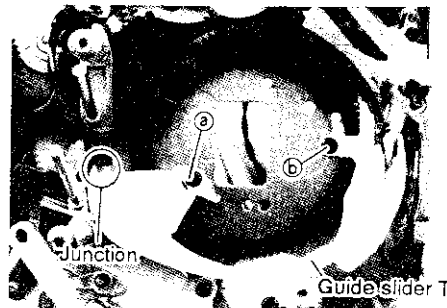

Fig. 3-16-1
- 3 Remove screws ③ and ⑤ and then the guide slider T.
- 4 Slide the takeup tape guide assembly in the direction of arrow (Fig. 3-16-1) and remove it from the guide slider T.
- 5 Remove the cut washer ④ and then pull out the takeup tape guide assembly off the takeup arm shaft.
- 1 Attach the takeup guide assembly to the takeup arm shaft. Secure the takeup tape guide assembly with the cut washer ④.
- 2 Attach the takeup tape guide assembly to the guide slider T by sliding the guide in the direction opposite to the arrow shown in Fig. 3-16-1.
- 3 Attach the junction of guide sliders T and R as shown in Fig. 3-16-1. Secure the guide slider T with screws ③ and ⑤.